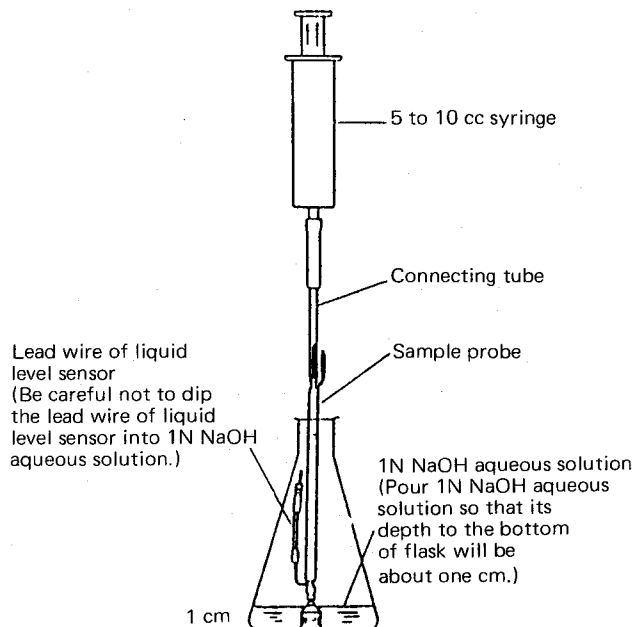

Fig. 4-4 Cleaning of Probe's Inside
Clean the inside wall as instructed in Figure 4-4.
- 1) Pour 1N NaOH aqueous solution into a flask so that it will be about one cm deep. Then, insert the probe attached to a syringe into the flask as shown in Figure 4-4.